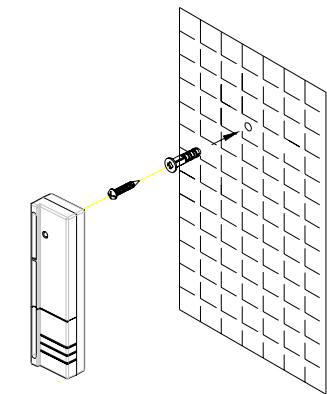

FIGURE 12a
1. Choose a position to drill a hole, insert the plastic wall plug and fix a screw on the wall. Hang up the Detector on the screw. (FIGURE 12a)